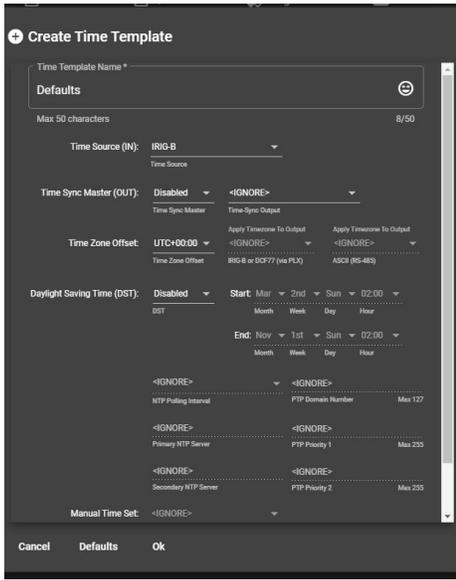

Figure 34. Create Time Template
Step 2: Provide a name for the SER time template. (Figure 34)